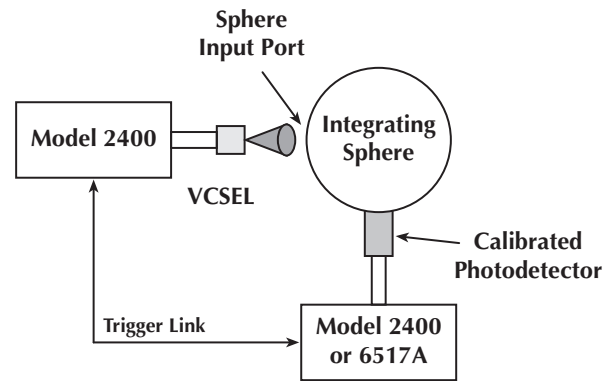

Figure 4. Typical SourceMeter/Electrometer-based Test System for VCSEL Testing.
Figure 4 illustrates a typical DC characterization system for testing a single VCSEL. In this configuration, the Model 2400 SourceMeter® instrument is connected to the VCSEL. The light output from the device shines through the input port of an integrating sphere. A photodetector (PD), combined with an integrating sphere, is used to determine the amount of optical power the VCSEL is generating. The test fixture is typically kept in the dark to avoid corrupting the results with errors due to ambient light.
Keithley has developed an example Microsoft Visual Basic program in order to perform the VCSEL/PD tests presented by the test system shown in *Figure 4*. To obtain a copy of the program (VCSEL.zip), visit Keithley's World Wide Web site (<http://www.keithley.com>).
The following equipment is needed to configure the system shown in *Figure 4*: